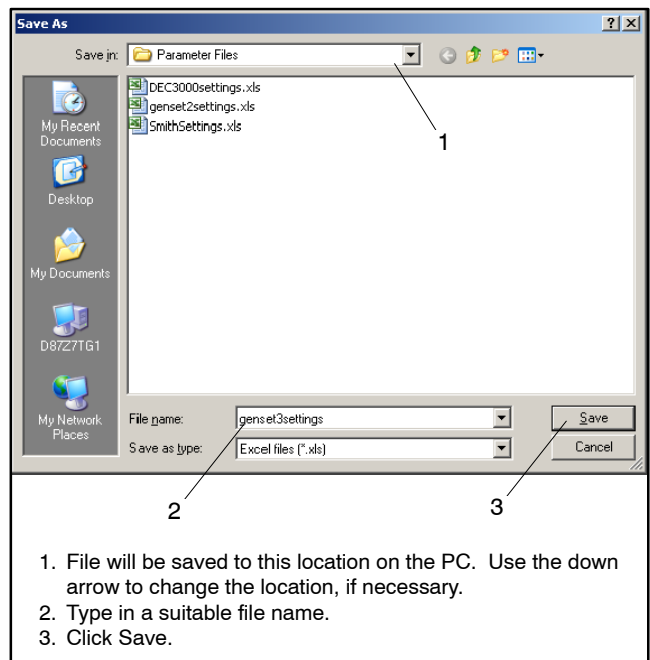

Figure 3-5 Save As Dialog Box for File Export
2. Click on Export. The Save As dialog window will open. See Figure 3-5.